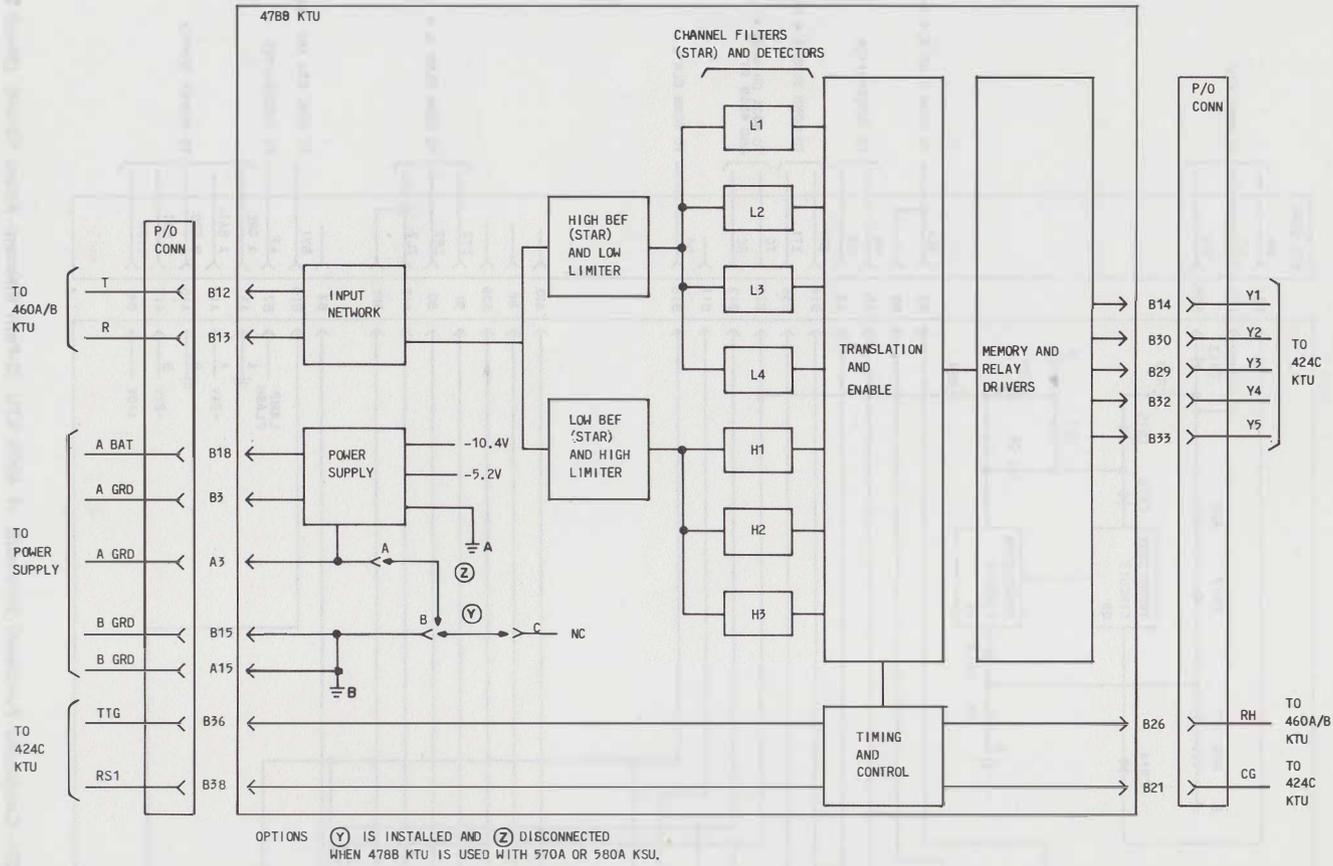

Fig. 21—Condensed Functional Schematic of 478B KTU (TOUCH-TONE Adapter Circuit)
2.27 The 478B KTU (Fig. 21) is an 8-inch unit that provides TOUCH-TONE dialing when